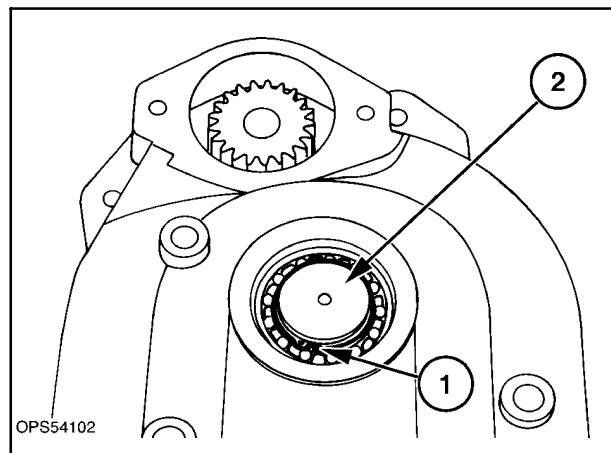

Figure 4-106
6. Place the gearbox in a press, support the gearbox housing next to the sprocket and shaft assembly at 1 as close as possible and press the shaft assembly, 2, from the snap ring side of gearbox and shaft, 2, Figure 4-106.